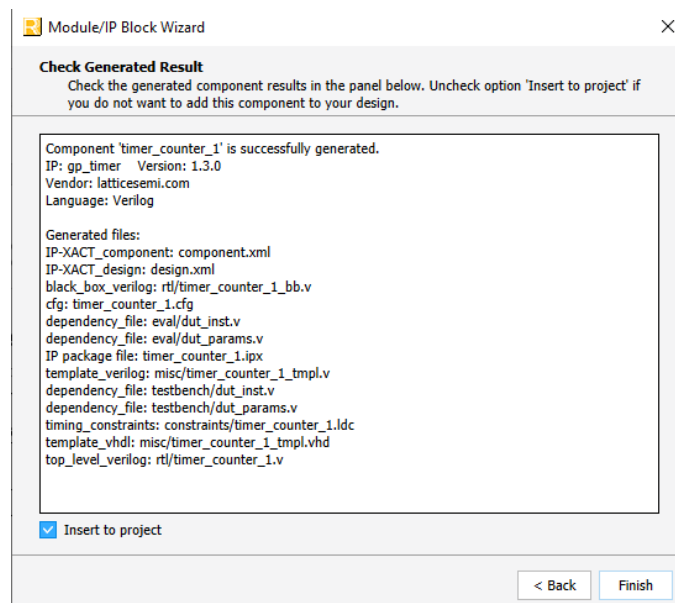

Figure 3.3. Check Generated Result
- Click **Generate**. The **Check Generated Result** dialog box opens, showing design block messages and results as shown in Figure 3.3.